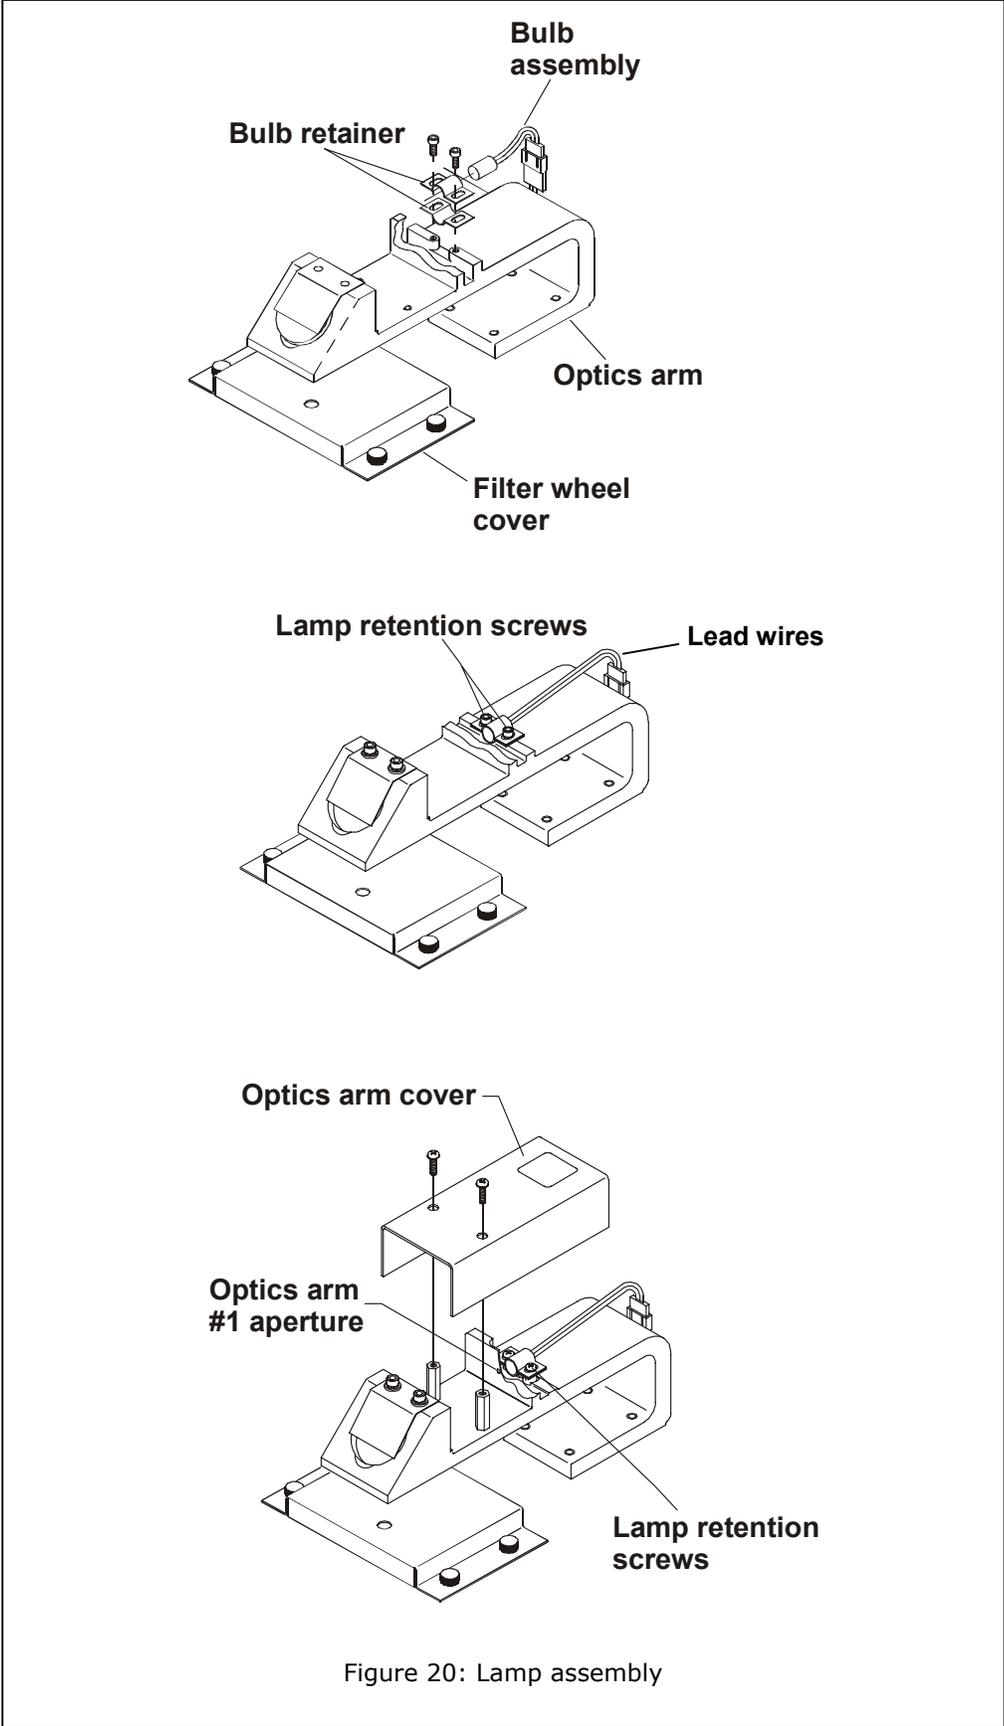

Figure 20: Lamp assembly
**Figure 20** shows a detailed view of the lamp assembly.